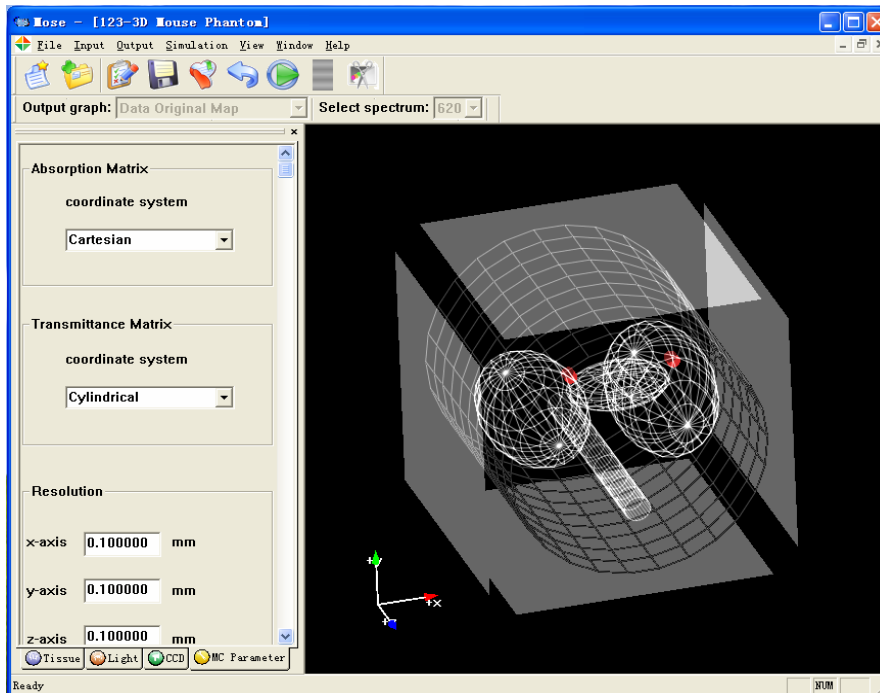

Figure 12-10. Set the simulation parameter for MC
d. *MC parameter* page: see Figure 12-10, we can set the information of absorption and transmittance matrix in this page.